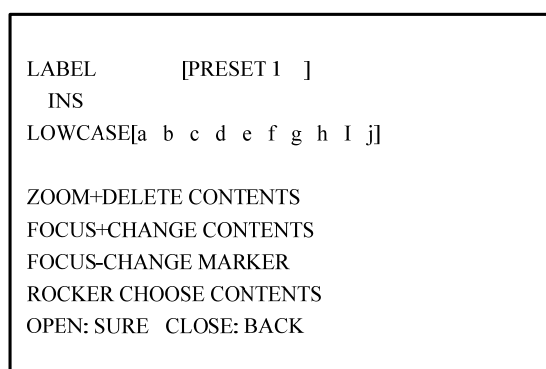

Figure 3.3.15
- b. Press the FOCUS+ button to switch input characters among numbers, lowercases, capitals and symbols. Refer to Figure3.3.15. Move the Left and Right buttons to position the cursor beside a character and press FOCUS+ to enter selection.